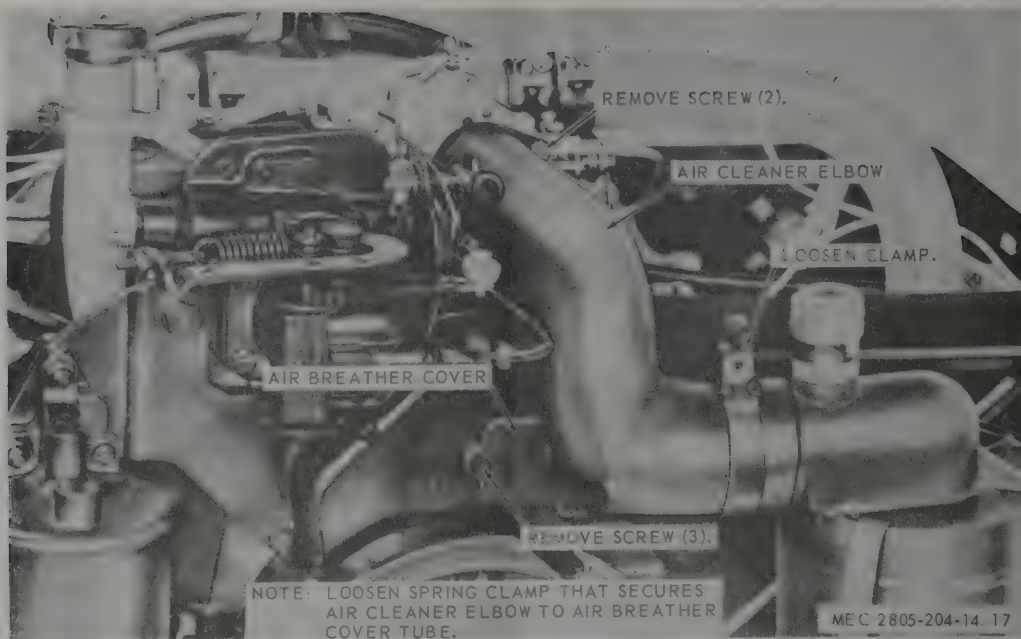

Figure 3-11. Air cleaner elbow and air breather cover, removal and installation.
(1) Remove top shroud (para 3-17).
(2) Refer to figure 3-11 and remove air cleaner elbow and air breather cover.
(1) Refer to figure 3-11 and install air cleaner elbow and air breather cover.
(2) Install top shroud (para 3-17).